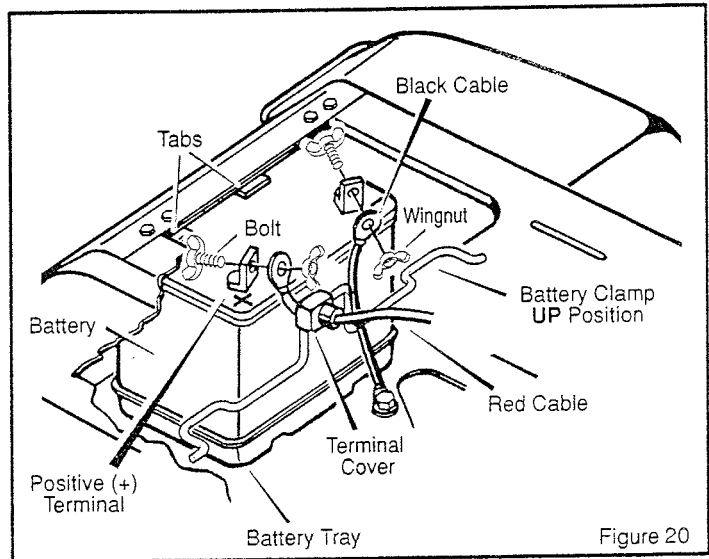

Figure 20
1. Remove the **black cable** from the negative (-) terminal (Figure 20).